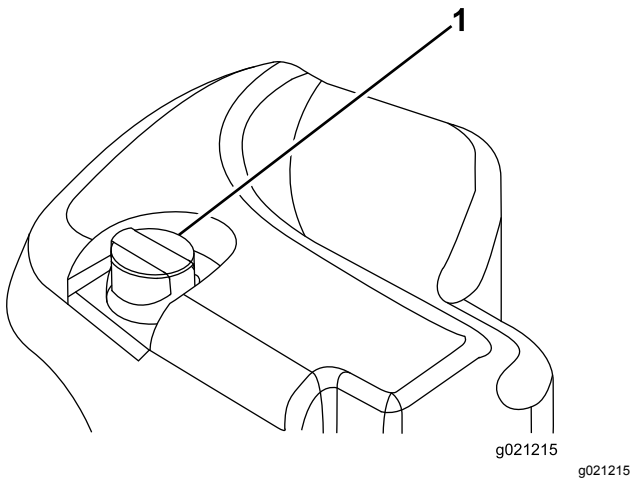

Figure 72
2. Clean the area around the filler neck and cap of the hydraulic tank (Figure 72).